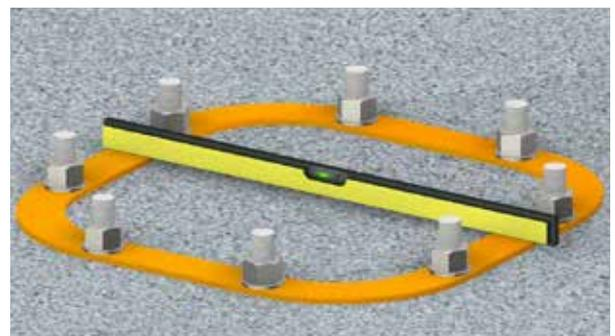

fig.23
5. Level the foundation frame, possibly using a level and fill and scrape the plinth (fig. 23).